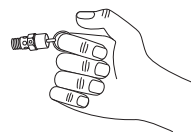

Figure 11
1. Pull ring on safety valve and allow the ring to snap back to normal position (See Figure 11). This valve automatically releases air if the tank pressure exceeds the preset maximum.